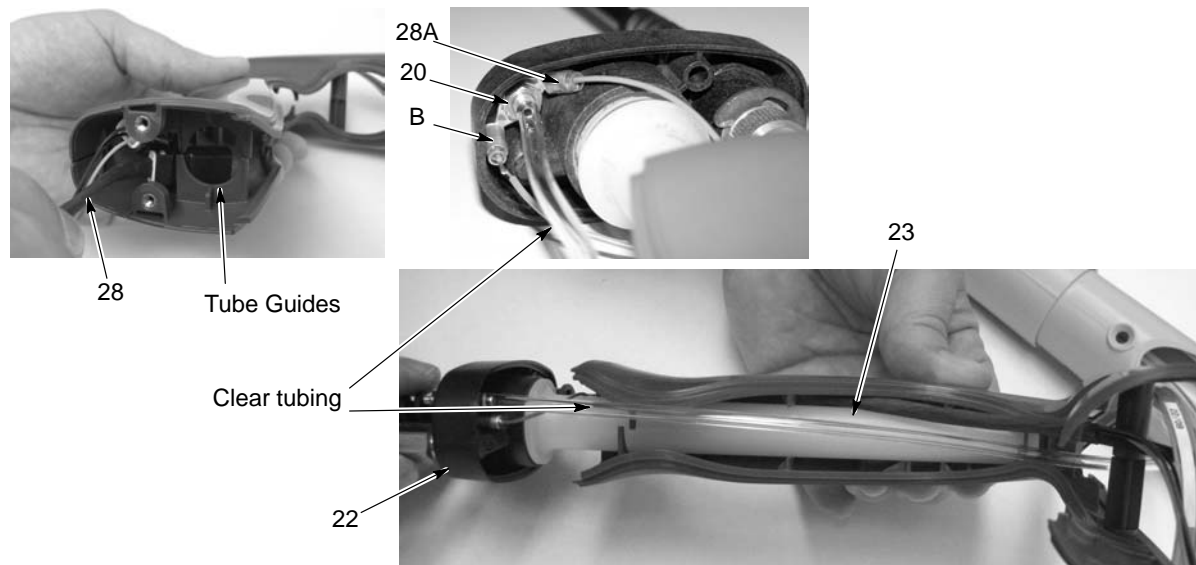

Figure 8 Assembling Handles and Base
17. See Figure 8. Feed the cable (28) connectors and display module ground wire into the front of the handle, then slide the inlet tube (23) through the tube guides into the handle assembly while routing the cable (28) through the handle as shown. Stop when the base is about 1.5-2 inches from the bottom of the handle assembly.
18. Connect the 4-mm clear tubing (part of filter assembly, item 4) to the barbed fitting (20) in the handle base.